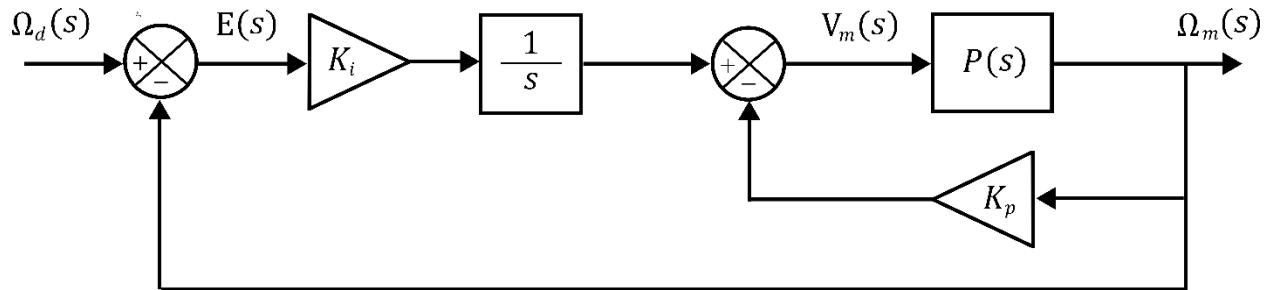
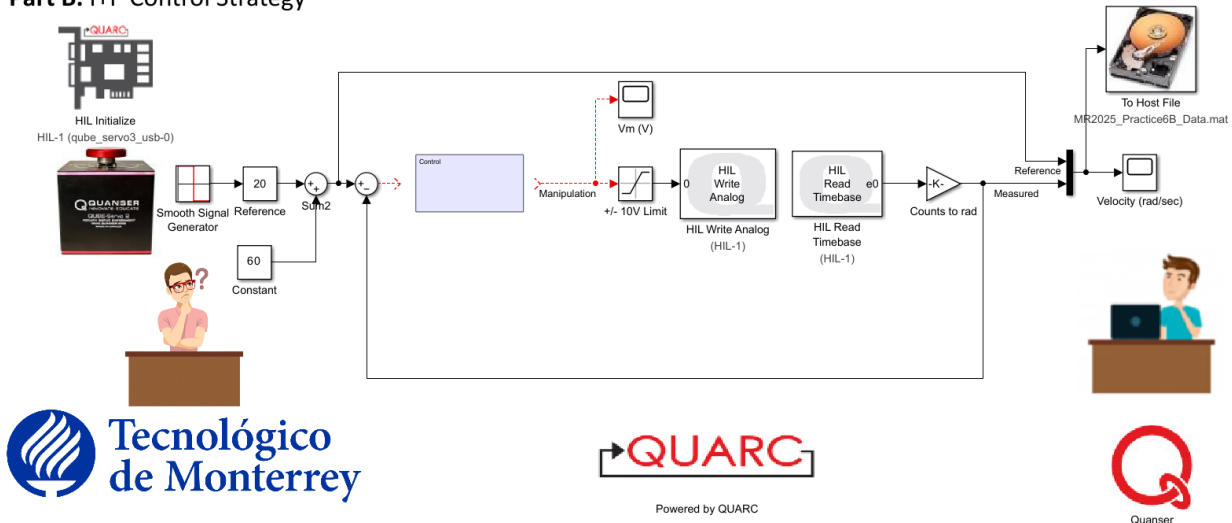

Fig. 2.1: Block diagram of I+P control.
Fig. 2.2: Hardware interfacing and I+P feedback velocity control of QUBE-Servo 3.
D.1 In this Lab Practice, a new control strategy, called I+P control, is proposed to regulate the angular velocity of the QUBE-Servo 3. Here, the derivative term is not used, the integral term takes the error and the proportional considers only the process variable. For this reason, it is also known as integral plus proportional, Fig. 2.1
D.2 According to the models already designed in Hardware Interfacing and Filtering laboratory experiment, design a model of the integral plus proportional feedback control (D.1) given in Fig. 2.1 where a Signal Generator block is the velocity command (i.e. desired velocity or setpoint), a square wave with an amplitude of 20 [rad/sec] and at a frequency of 0.25 [Hz], adding a Constant block of 60 [rad/sec], as shown in Fig. 2.2.
D.6 Based on Fig. 2.1, obtain the closed-loop transfer function $G(s)$ of the system, which relates the actual and the desired angular velocity, $\Omega_m(s)/\Omega_d(s)$.